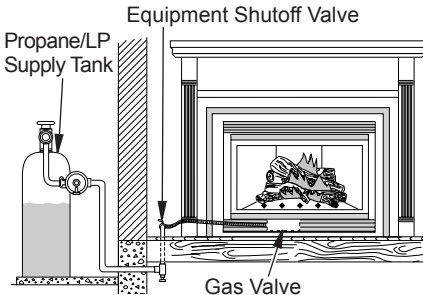
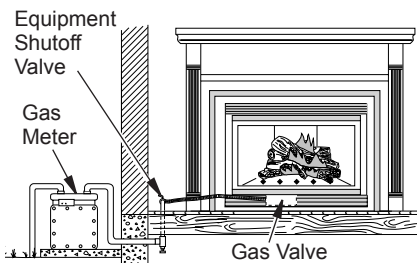

Figure 26 - Checking Gas Joints for Propane/LP Gas Fireplace
Figure 27 - Checking Gas Joints for Natural Gas Fireplace
3. Check all joints from propane/LP supply tank or gas meter to equipment shutoff valve (see Figure 26, for propane/LP or Figure 27, for natural gas). Apply noncorrosive leak detection fluid to all joints. Bubbles forming show a leak. Correct all leaks at once.
4. Check all joints from equipment shutoff valve to gas valve (see Figure 26, for propane/LP or Figure 27, for natural gas). Apply noncorrosive leak detection fluid to all joints. Bubbles forming show a leak. Correct all leaks at once.